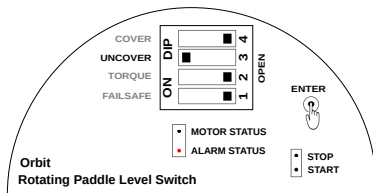

Figure 15: Setting Uncover Delay
3. Press and hold ENTER key as shown in Figure 15. The ALARM STATUS LED starts blinking. Blink the LED according to value of uncover delay.